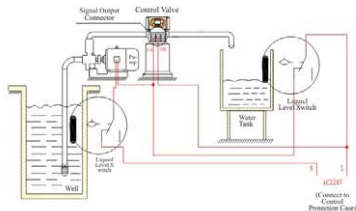

Figure 3-5 Wiring of Liquid Level Controller Controlling Inlet Pump
**Instruction:** For the system using well or middle-tank supplying water, switch of liquid level controller and valve together control pump opening or closing. The wiring refer to Figure 3-5: